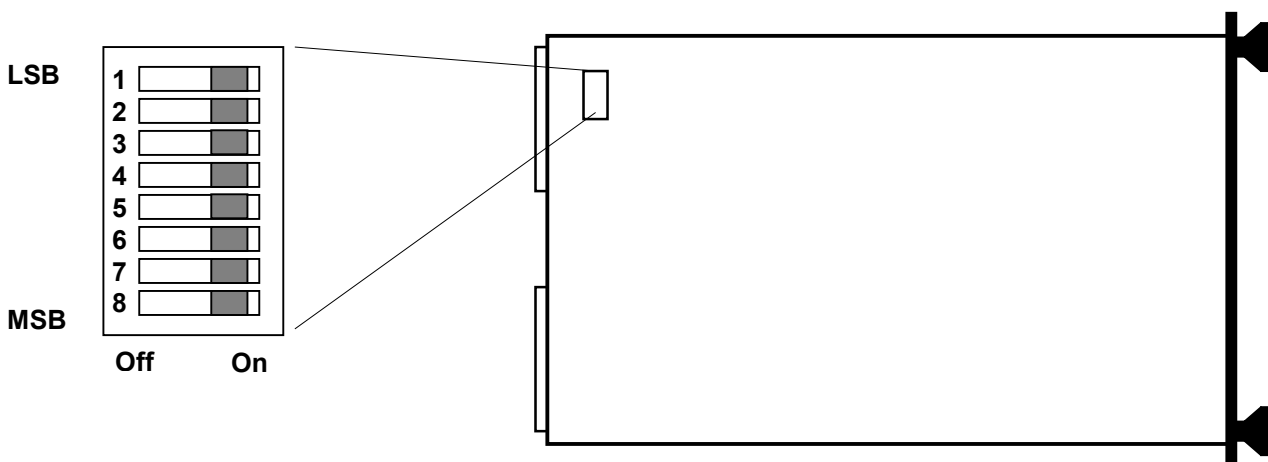

Figure 3 - Logical Address Switch Location
Figure 3 shows the location of the logical address switch on the ProDAQ 3044. Set each switch to 'Off' for a logical one (1) and to 'On' for a logical zero (0). The picture shows the address switch set to logical address zero (0).